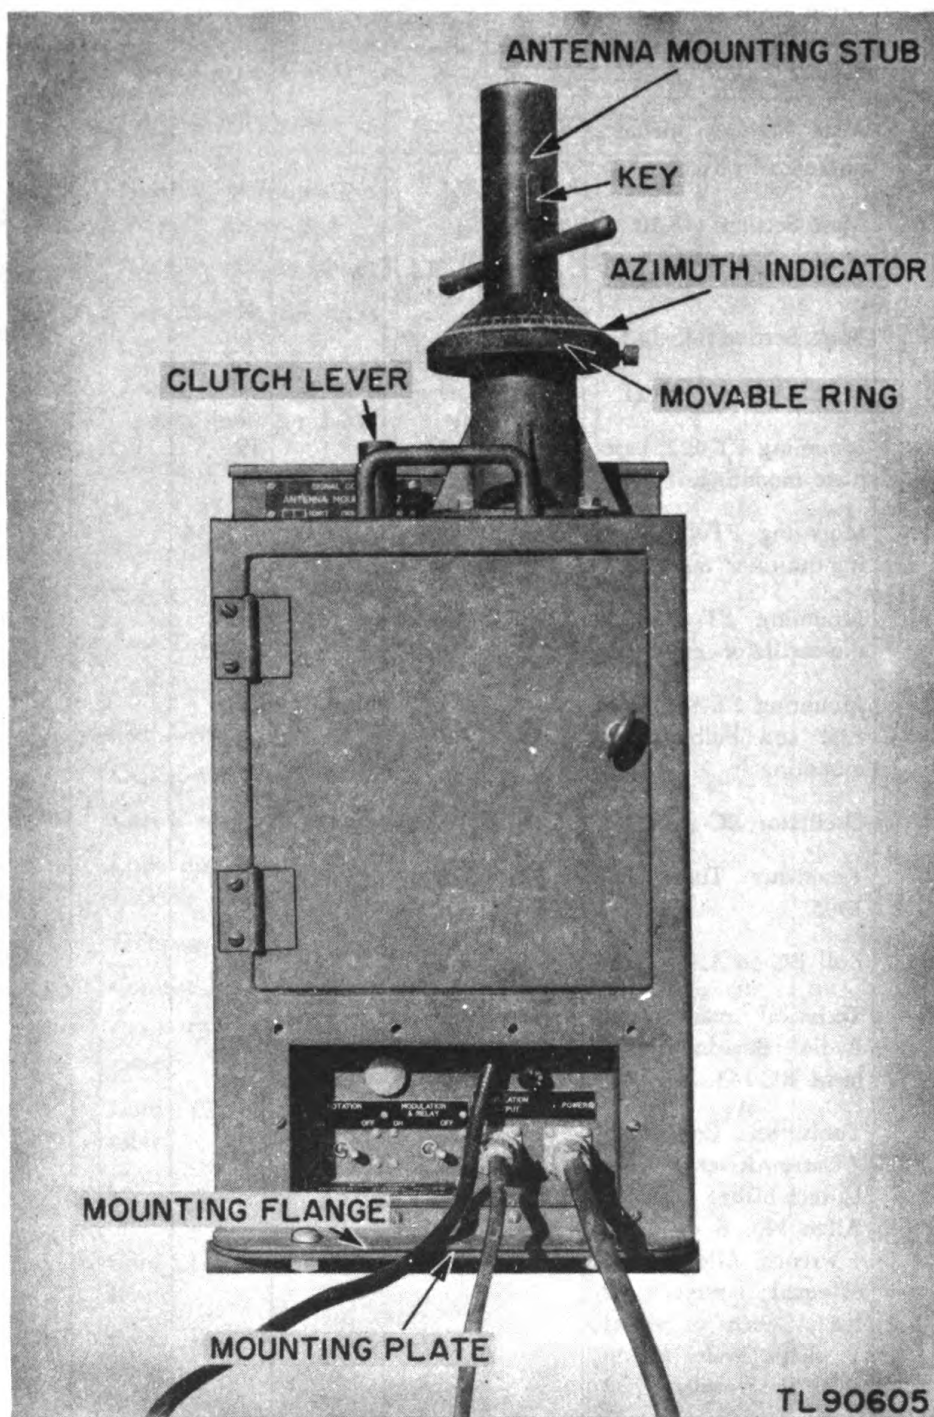
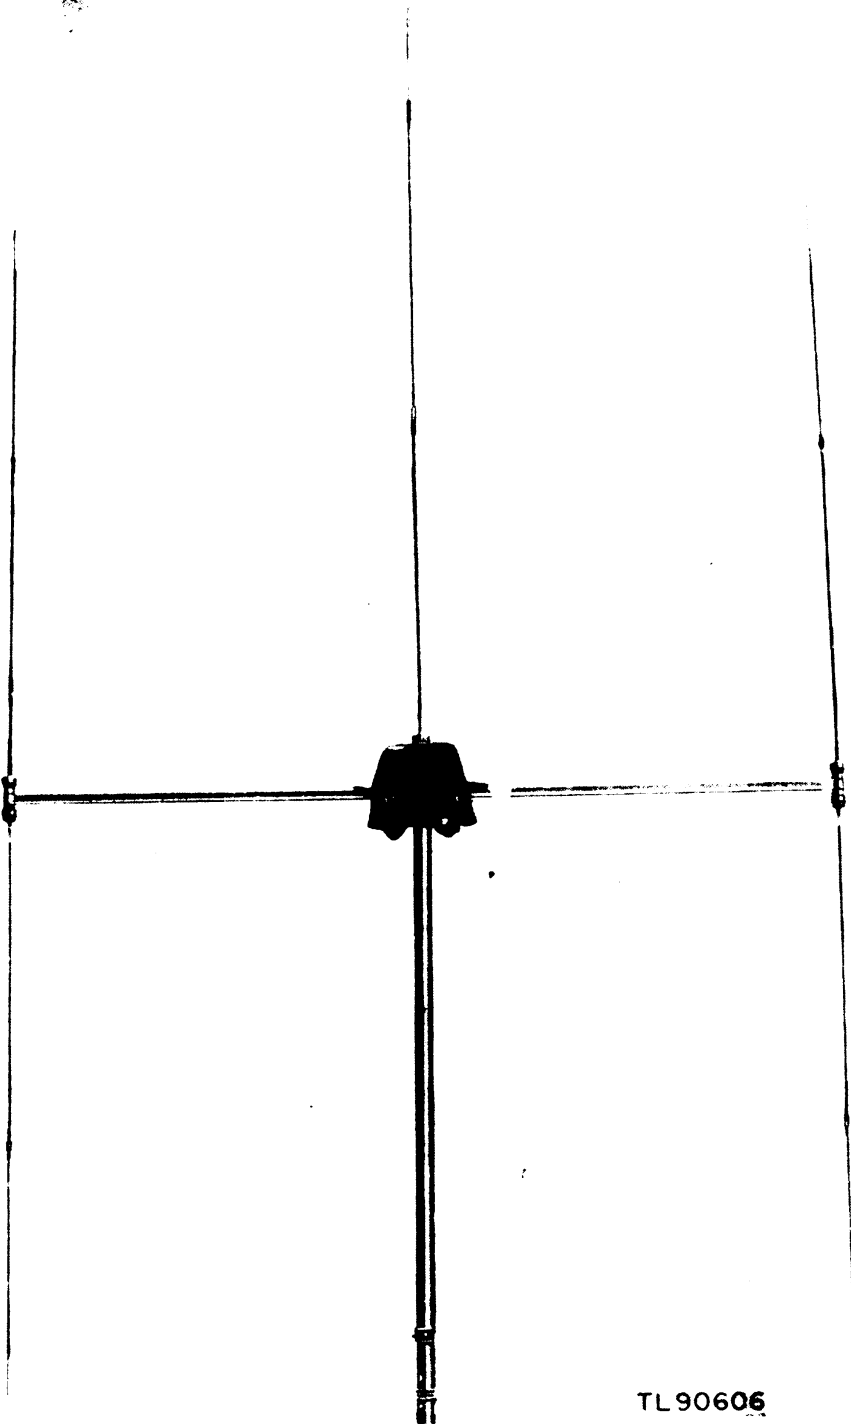
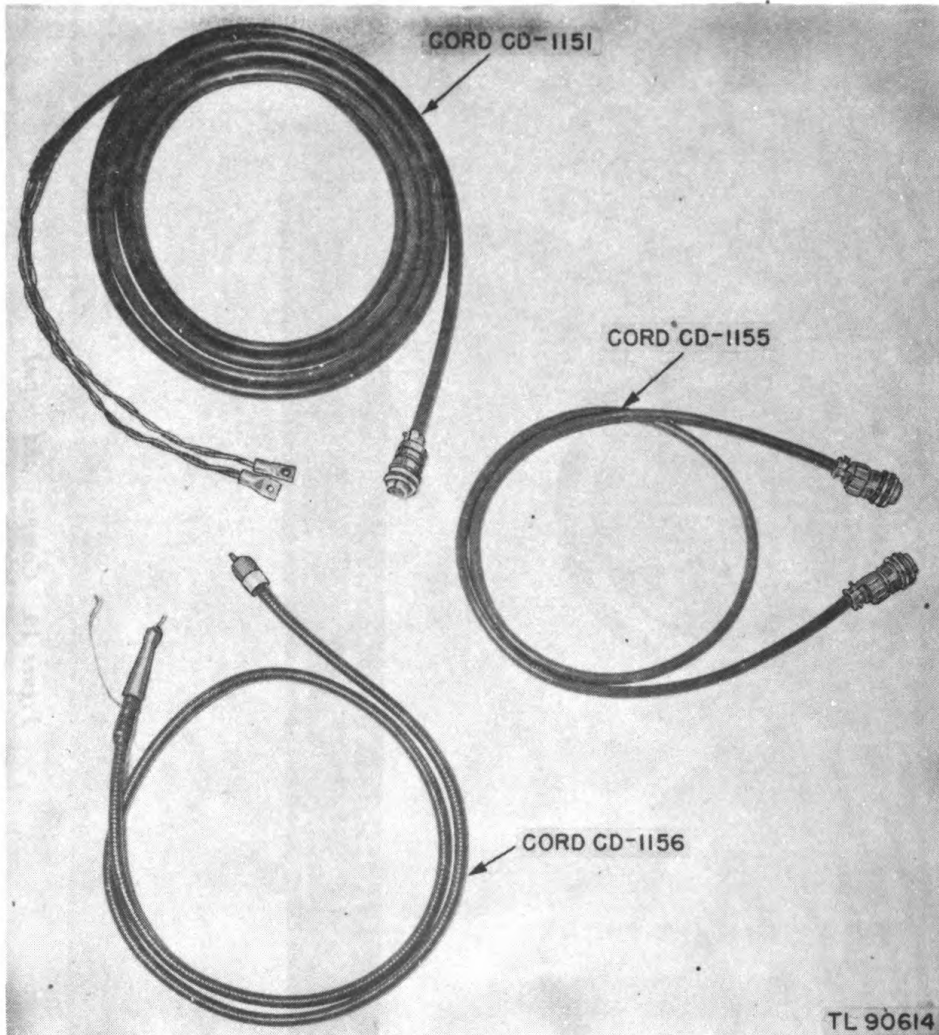

Figure 2. Antenna Mount MP-67.
Figure 3. Antenna array, assembled.
Figure 11. Cords CD-1151, CD-1155, and CD-1156.
a. The antenna mount (fig. 2) is a steel box 12 inches wide,  $15\frac{3}{4}$  inches deep, and 20 inches high. Flanges on the bottom of the mount are bored for
*a. General.* The beacon antenna system (fig. 3), consists of an Adcock-type antenna in conjunction with a vertical dipole. Included with the system is the phase-load box containing the necessary phasing circuits.
*b. Vertical Dipole.* (1) The vertical dipole consists of a hollow Mast MS-119, on top of which is mounted the phase-load box, and a mast consisting of three sections which screws into the top of this box.
(2) Mast MS-119 consists of approximately 6 feet 5½ inches of 2⅛-inch hollow tubing, with bakelite insulators at each end and a polarized socket below the bottom insulator. This socket slides over the antenna mounting stub in the antenna mount. Two keys on the outside of the mounting stub (fig. 2), fit into the notches in the polarized mast socket. These keys serve as a rest and are so constructed that the mast can only be inserted correctly into the antenna mounting stub. These keys eliminate strain from the electrical connections between the stub and the mast when the antenna rotates. Within the mast an r-f transmission line terminates at the lower end in solid male type jacks which mate with split female plugs mounted within the stub. At the upper end, the r-f transmitter line connects to the circuits within the phase-load box.
(3) A canvas cover, Cover BG-181, is furnished to protect the lower end of the mast when not in use.
- b. Cord CD-1151.* (1) The power cord, Cord CD-1151 (fig. 11), consists of two No. 14 B and S gauge wires, 10 feet long enclosed in a rubber sheath. (2) A connector on one end of the cord allows for connection to the POWER
socket on the control panel (fig. 2). The other end of the cord contains 2 battery lugs for connection to a 12-volt storage battery. The lugs are plainly marked; the red lug for connection to the positive pole of the battery, and the black lug for connection to the negative side of the battery.
- c. Cord CD-1155.* (1) The audio cord, Cord CD-1155 (fig. 11), consists of two shielded No. 18 B and S gauge wires covered with a rubber sheath. The cord is terminated on one end by a three-prong connector for connection to the MODULATION OUTPUT control socket (fig. 2) on the panel and the other
*d. Cord CD-1156.* Cord CD-1156 (r-f coaxial cable) (fig. 11) is a flexible two-conductor coaxial cordage which is intended for transmission of high-frequency current. The inner wire is one conductor and the outer shield acts as the other conductor. The entire cord is vinyl covered to prevent damage to the shield.